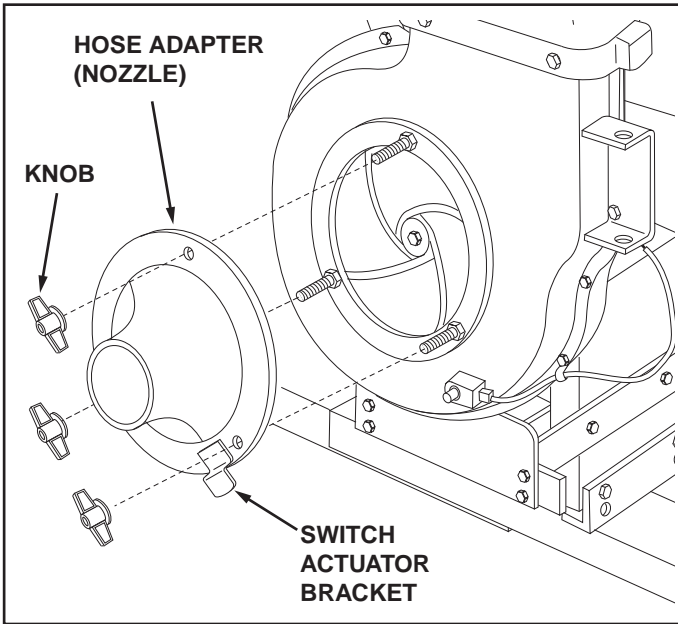

FIGURE 18
32. Assemble the hose adapter (nozzle) to the front of the impeller housing and secure with the three knobs. Make sure that the switch actuator bracket contacts the switch on the housing. See figure 18.